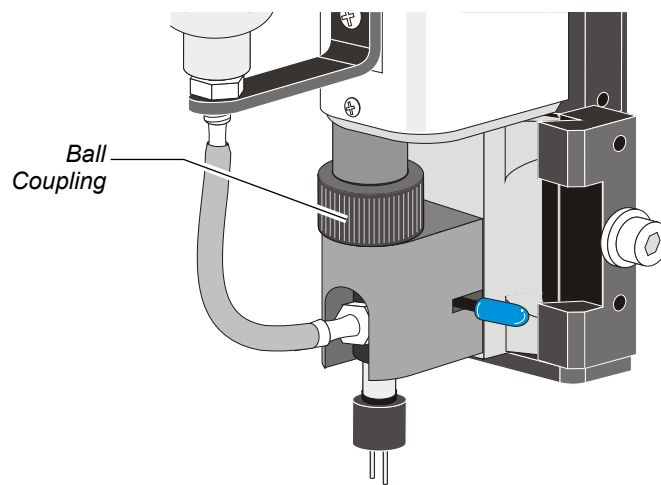

Figure 3-2 Ball Coupling Location
7. Toggle the output ON and check the direction of the ball coupling (Figure 3-2). It should be turning in a clockwise direction if viewed from above.